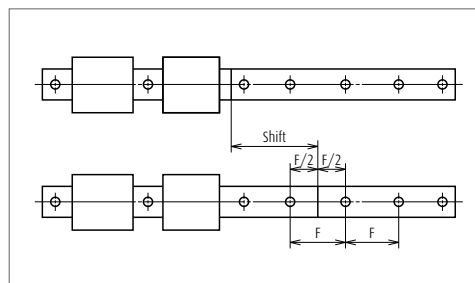

Fig. 26
- › The pitch of the rail mounting hole on the butting section should be as F in Fig. 26. When two rails are used in parallel, the butted sections should not align. This is to avoid change in the running accuracy of the table at the butted sections.